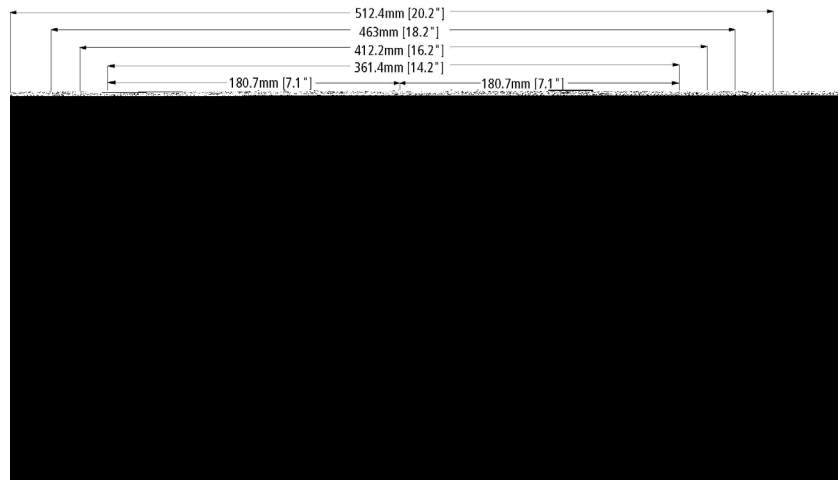

Figure 1-1 Dimensional Drawings for Screw Hole Placement
7. Drill pilot holes for the mounting bolts into the 2 in. x 4 in. boards, referring to Figure 1-1 for locations.